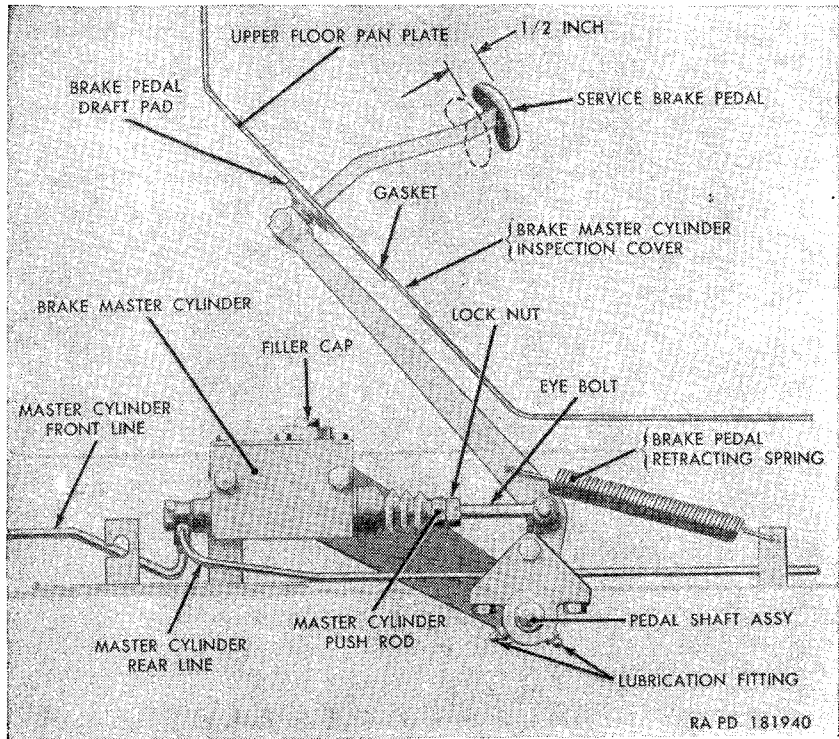

Figure 158. Service brake pedal and brake master cylinder linkage.
has two shoes. Adjustments are provided to compensate for brake lining wear. The service brake pedal (fig. 158) operates a piston in the master cylinder to force brake fluid through the brake lines to the wheel cylinders which actuate the brakes. The hand brake (fig. 163) is located at the rear of the transfer and is normally used to hold the vehicle in position when parked. The hand brake can also be used to stop the vehicle in cases of emergency or failure of the service brakes. The hand brake handle (W, fig. 12), for operating the brake, is located between the two front seats. Pulling up on the handle forces the brake shoes against the brake drum.
a. Service Brake Pedal Free Travel Adjustment (fig. 158). Correct service brake pedal free travel adjustment insures that the service brakes will be fully released, when the brake pedal has returned from the depressed position.
- (1) Loosen the steering gear mounting bolt (F). Loosen the bolt (Q) securing the front end of the master cylinder to the frame side rail. Raise the shield (P) to release the slotted ends of the shield from the loosened bolts and slide the shield toward the rear of the vehicle to remove.
- (2) Disconnect the stoplight switch cables number 75 at connectors (H and K).
- (3) Unscrew the nuts securing the master cylinder front and rear brake lines (J and B) to the outlet fitting (N) and pull the lines from the fitting. Place a suitable container under the fitting and allow the hydraulic brake fluid to drain into the container.
- (4) Remove the cotter pin and plain washer securing the master cylinder eyebolt to the stub shaft on the lower end of the brake pedal assembly (fig. 158) and slide the eyebolt from the shaft.
- (5) Work the boot (A) off the master cylinder end and remove the boot, master cylinder push rod, and eyebolt (fig. 158) as a unit.
- (6) Loosen the two machine bolts (Q) securing the tie bar (R) and master cylinder to the frame side rail (E), and pull the bolts out sufficiently to clear the side rail. Lower the master cylinder to the floor with the cylinder attached to the tie bar and with the rear end of the tie bar attached to the brake pedal shaft.
- (7) Pull the two machine bolts (Q), with lockwashers and plain washers, from the tie bar (R), and remove the master cylinder from the tie bar.
- (8) Unscrew and remove the stoplight switch (L) from the outlet fitting bolt (M). Unscrew and remove the bolt (M), outlet fitting (N), and two outlet fitting gaskets. Discard gaskets.
- (1) Install the stoplight switch (L) in the outlet fitting bolt (M). Slip a new outlet fitting gasket, the outlet fitting (N), and another new gasket over the end of the outlet fitting bolt in the order named. Insert the bolt into the front end of the master cylinder and tighten fingertight.
- (2) With the master cylinder push rod, eyebolt (fig. 158), and boot (A) assembled as a unit, insert the end of the push rod into the rear of the master cylinder and work the boot open end over the cylinder end.
- (3) Position the master cylinder, with attached parts, next to the tie bar (R) with the tie bar holes alined with the cylinder holes. Insert two $\frac{5}{16} \times 3$ bolts, with $\frac{5}{16}$ -inch lockwashers and plain washers, through the tie bar and into the cylinder holes.
- (4) Raise the master cylinder into position against the frame side rail (E) and thread the bolts into the nuts welded to the frame. Tighten the rear bolt securely but leave the front bolt loose.
- (5) Position the master cylinder eyebolt, over the stub shaft on the lower end of the brake pedal assembly (fig. 158), and secure with a $\frac{3}{16}$ -inch plain washer and $\frac{3}{32} \times \frac{3}{4}$ cotter pin.
- (6) Turn the outlet fitting (N) to mate with the ends of the two brake lines (B and J) and secure the lines to the fitting with the nut on the end of each line. Tighten the outlet fitting bolt (M).
- (7) Connect cables number 75 at connector (H and K).
- (8) Position the shield (P) under the cylinder and slide the slots in the shield brackets over the bolt (F) securing the steering gear to the frame side rail and the front bolt (Q) securing the tie rod and master cylinder to the frame. Tighten both bolts.
- (9) Fill the master cylinder with hydraulic brake fluid (*a* above), bleed the brakes (par. 237), check the brake pedal for free play and adjust if necessary (par. 233*a*).